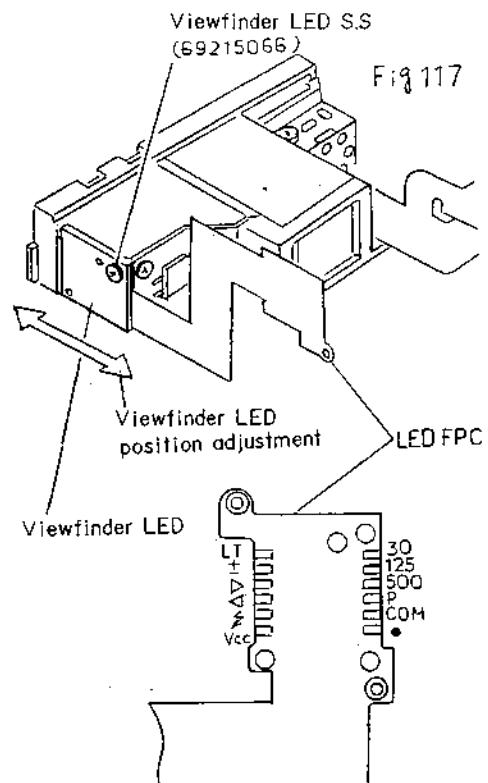

Fig.118
- 1) Solder the Lead Wire to the pattern of COM of the LED FPC (See Fig.118).